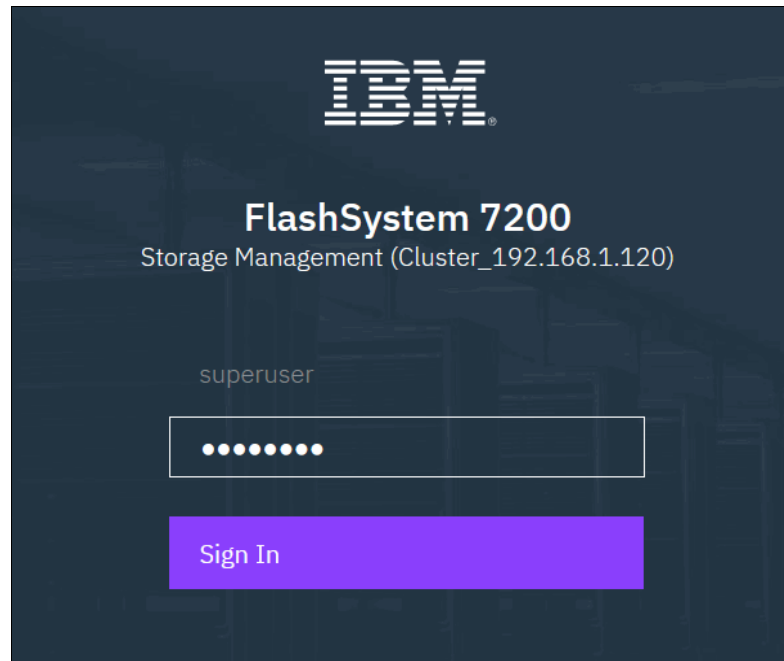

Figure 3-10 Logging in for the first time
1. Log in to system GUI. Until the wizard is complete, you can use only the *superuser* account, as shown in Figure 3-10. Click **Sign in**.